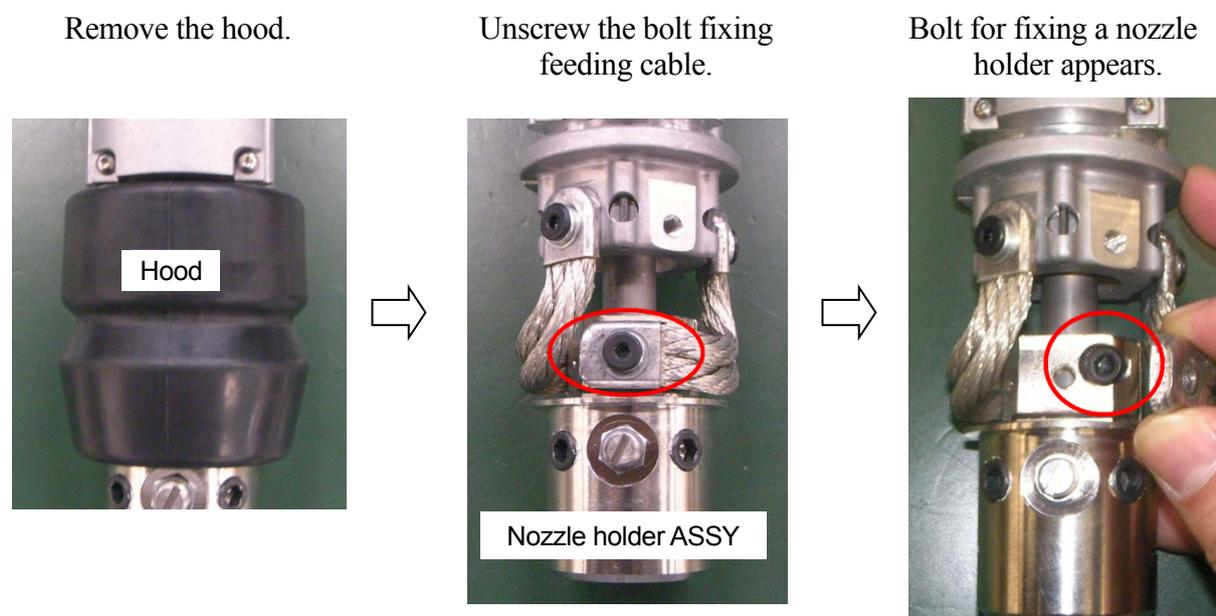

Fig 2.13 Adjustment method of torch (right/left direction)
1. If the torch end deviates in vertical direction, loosen 2 hexagon socket head cap screws ① (M8×20) that fix the insulating bracket onto the L bracket. Correct the position, moving the torch end in the direction that the torch end deviates (upward or downward), and then fix it firmly by tightening the hexagon socket head cap screws.
2. If the torch end deviates in front-back direction, loosen 2 hexagon socket head cap screws ② (M8×25) that fix the L bracket onto the mount. Correct the position, moving the torch end in the direction in which the torch end deviates (backward or forward), and then fix it firmly by tightening the hexagon socket head cap screws.
3. If the torch end deviates in horizontal direction, adjust in the following procedure referring to the “Fig. 2.13 Adjustment method of torch (right/left direction)”.